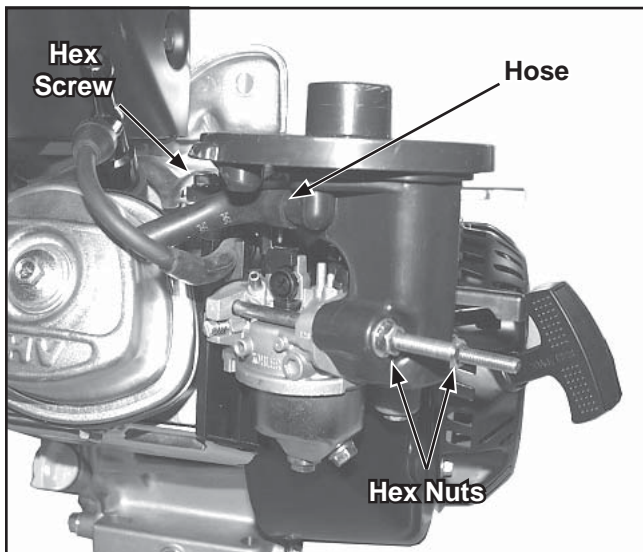

Figure 9-8. Air Cleaner Base Removal.
3. Remove one hex flange screw and two hex flange nuts securing the air cleaner base to the carburetor. See Figure 9-8.
4. Disconnect one end of the breather hose from the valve cover or air cleaner base. See Figure 9-8.